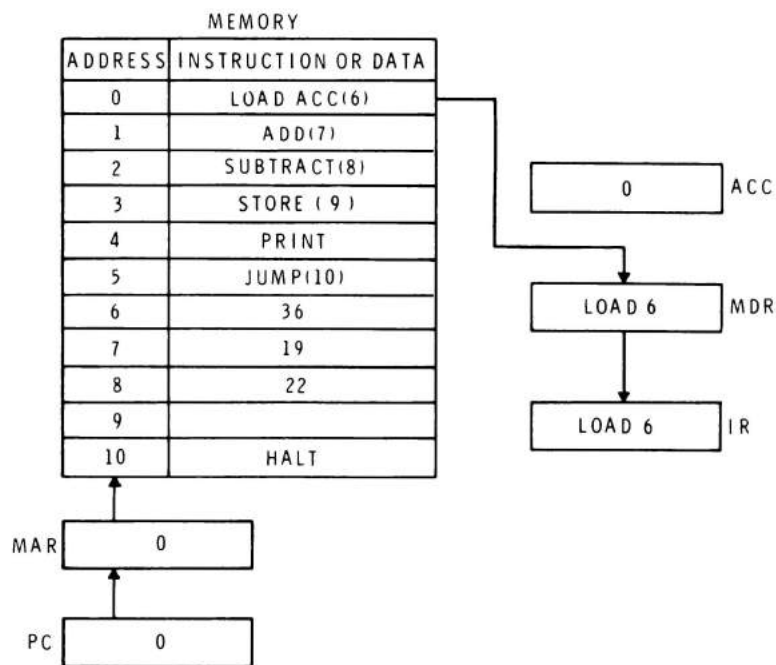

Figure 6-5
The solution to this simple problem as it is solved step-by-step by the computer is illustrated in Figure 6-5. Here, we show a simplified block diagram of the digital computer, emphasizing the memory and the major registers. The program is stored in memory. The contents of each memory location, either instruction or data, is shown adjacent to the memory address. To solve this problem, the computer sequentially executes the instructions. This is done in a two-step operation. First, the instruction is fetched or read out of memory. Second, the instruction is executed. This fetch-execute cycle is repeated until all of the instructions in the program have been executed.
In Figure 6-5, the first instruction of the program is fetched. The instruction word is read out of memory and appears in the memory data register (MDR). It is then transferred to the instruction register (IR) where it is interpreted. Note that the memory address register (MAR) contains 0, which is the address of the first instruction. The accumulator register (ACC) is set to 0 prior to the execution of the program.
Study the program shown in Figures 6-5 to 6-18. Trace through each of the fetch and execute cycles for each instruction to be sure that you fully understand the operation. All digital computers operate in this same way with minor variations.